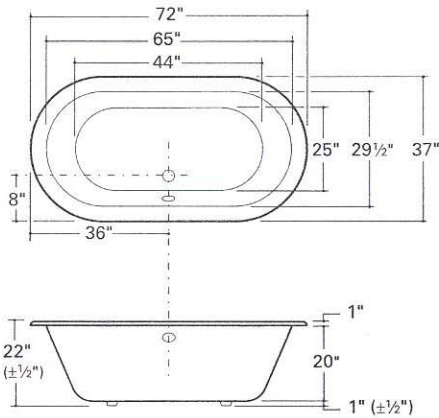

FIGURE 1
- Do not hang the bathtub by the rim. Bath must be supported from the floor (bottom of tub) and resting on all support feet (see Figure 1, left).